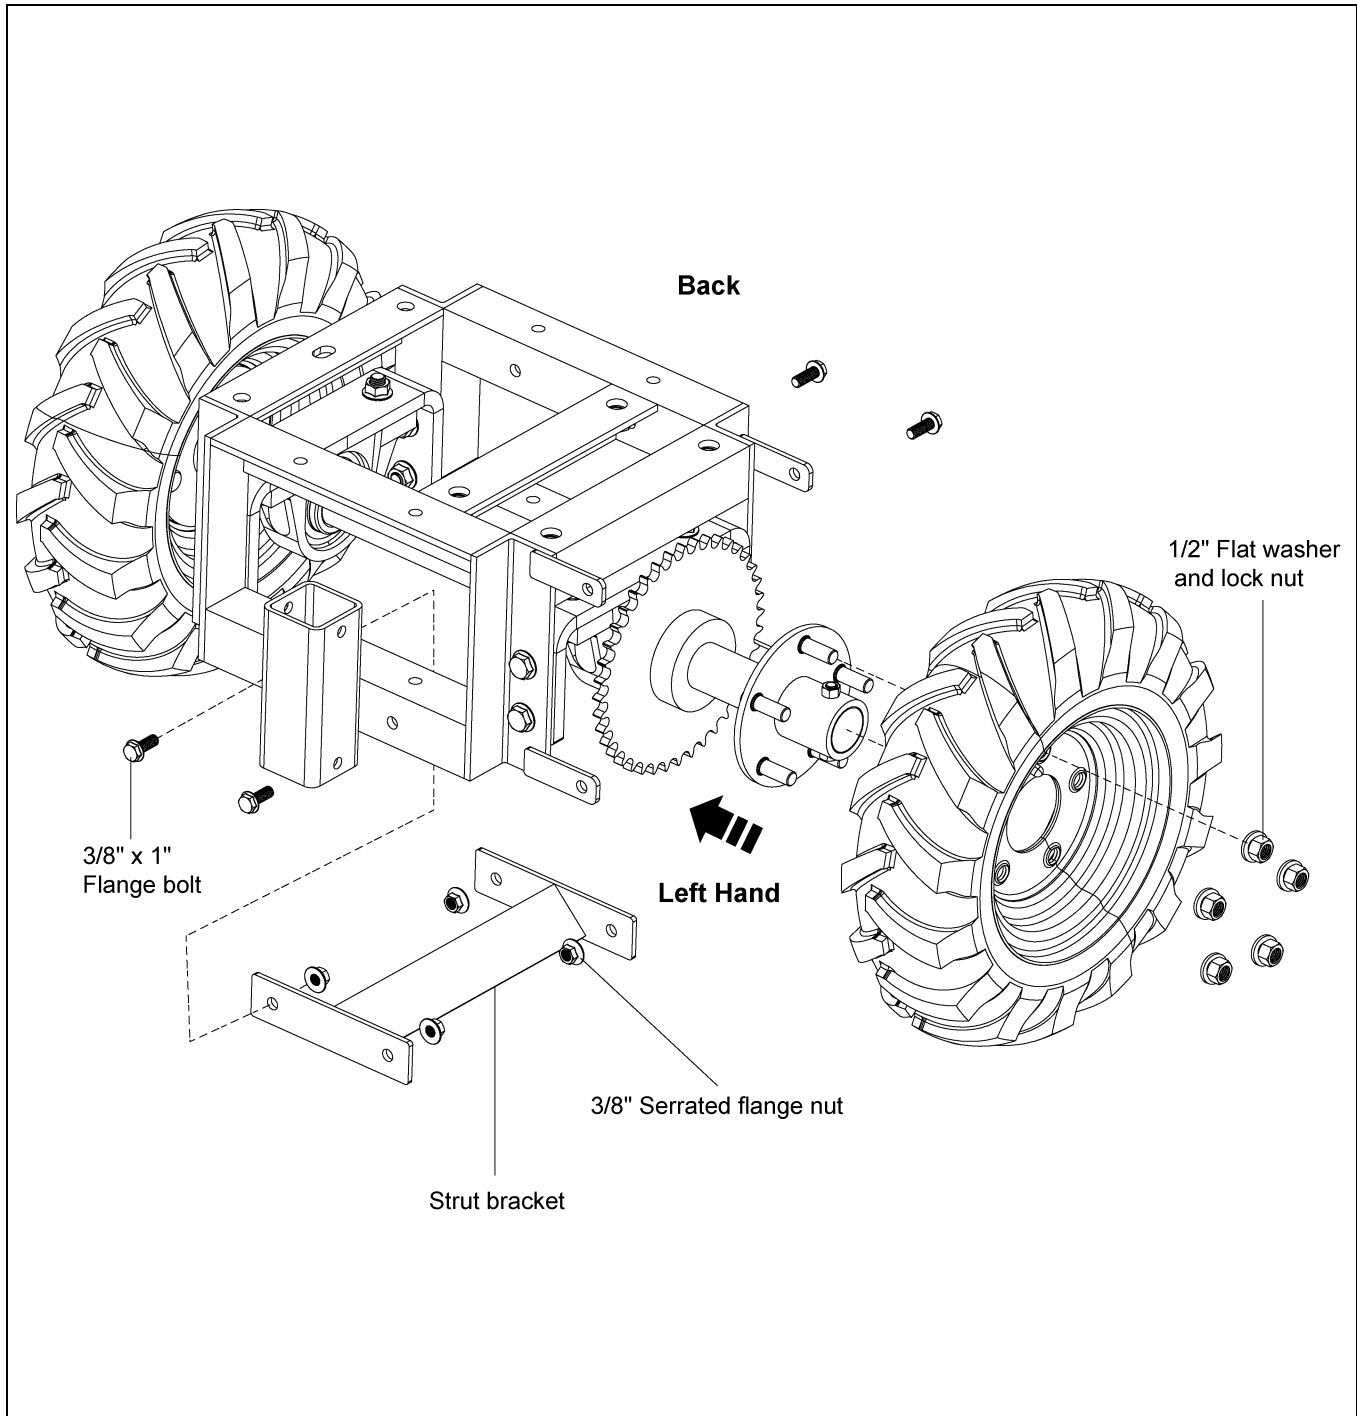

Figure 4C
NOTE: Remove the screws or nails that are present in the tires to contain the foam in the tires when they are made. The treads of the tires should be in the forward direction. Figure 4C shows the proper orientation of the tire and wheel assemblies.
8. Assemble the strut bracket to the tractor frame using four (4) 3/8"-16 x 1" flange bolts and serrated flange nuts. (See Figure 4C.)